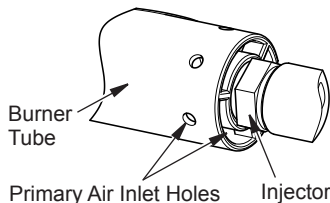

Figure 32 - Burner and Injector Holder
2. Inspect burner, pilot and primary air inlet holes on injector for dust and dirt (see Figure 32).